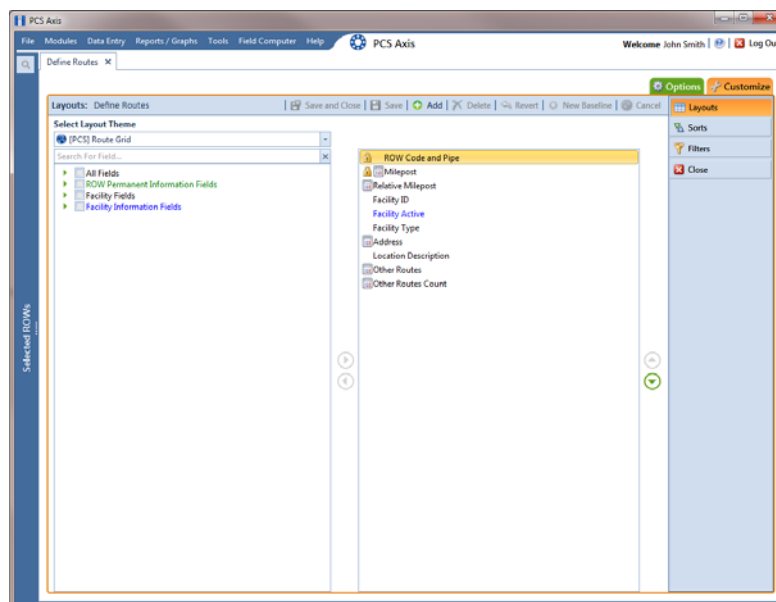

Figure 7-41. Layouts
- Click the **Customize** tab  to view the *Layouts* page (Figure 7-41, page 326).
- 3 Click the **Customize** tab  to view the *Layouts* page (Figure 7-41).
- 3 Click the **Customize** tab  to view the *Layouts* page (Figure 7-41, page 326).